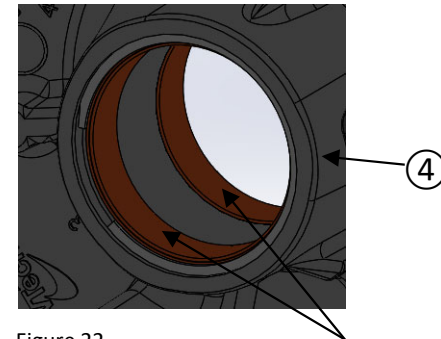

Figure 22
- Check for wear marks on the cam ⑨.
- Check for wear marks on the spring ⑦.
- Check the wear of the sliding sheave ④ bushings (visual inspection only, figure 22). If there is excessive wear, you must replace the whole sliding sheave assembly ④.
The bushings cannot be removed from the sliding sheave ④ (figure 22).